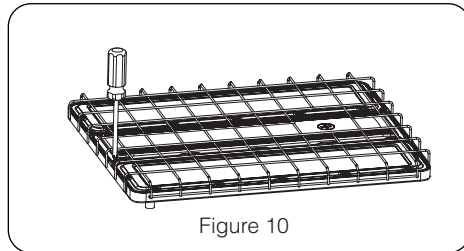

Figure 10
Step2. Place the wire guard on the luminaire and fix it with screws (Figure 10)